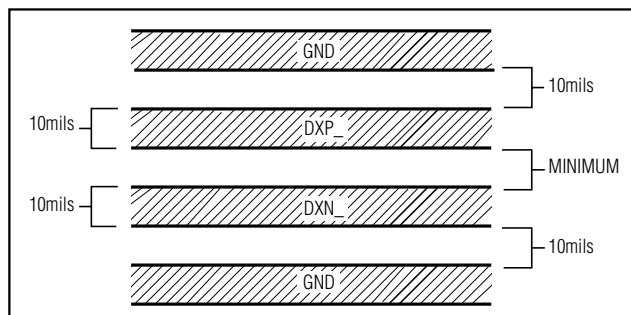

Figure 2. Recommended DXP_/DXN_ PC Traces
- 4) Connect guard traces to GND on either side of the DXP_ to DXN_ traces (Figure 2). With guard traces in place, routing near high-voltage traces is no longer an issue.
- 7) Use wide traces. Narrow ones are more inductive and tend to pick up radiated noise. The 10mil widths and spacings recommended in Figure 2 aren't absolutely necessary (as they offer only a minor improvement in leakage and noise), but try to use them where practical.